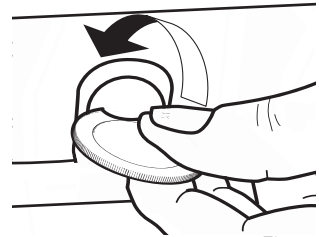

Fig. 4
1. Remove the screws and corresponding plates on the right and left with the aid of a coin or tool (fig. 4).